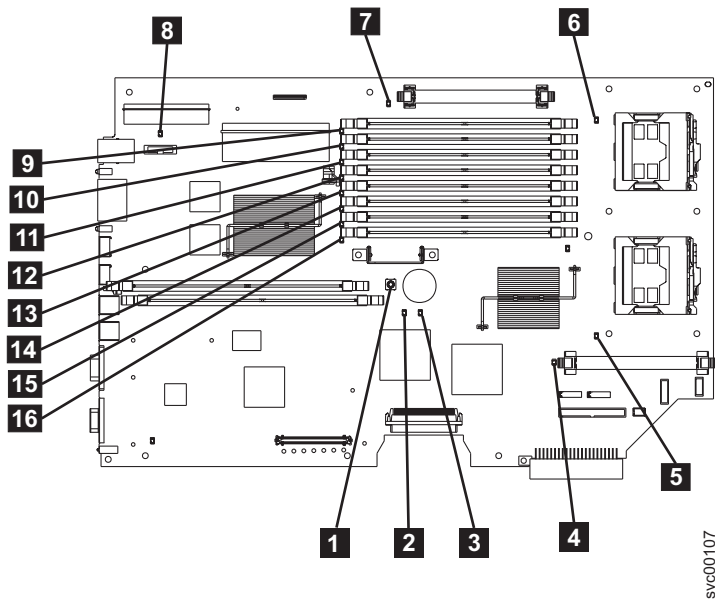

Figure 57. The SAN Volume Controller 2145-8F2 or SAN Volume Controller 2145-8F4 system board
- YES** Refer to Table 21 on page 266 and perform the action specified for the specific light path diagnostic LEDs, then go to step 3 on page 268. Some actions will require that you observe the state of LEDs on the system board or on the fan backplanes. The location of the system board LEDs are shown in Figure 57 on page 266. The fan LEDs are located adjacent to each FAN. To view the LEDs you will need to do the following:
- Press the light path diagnostic button **1**. See Figure 57 on page 266.